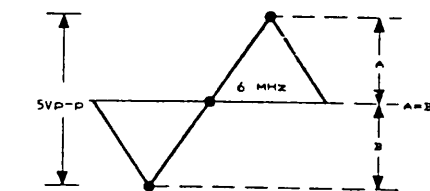

Fig 8.
- Adjust T103 so that the sound carrier is centred as in fig 8.
- Confirm the waveform as in fig 8.